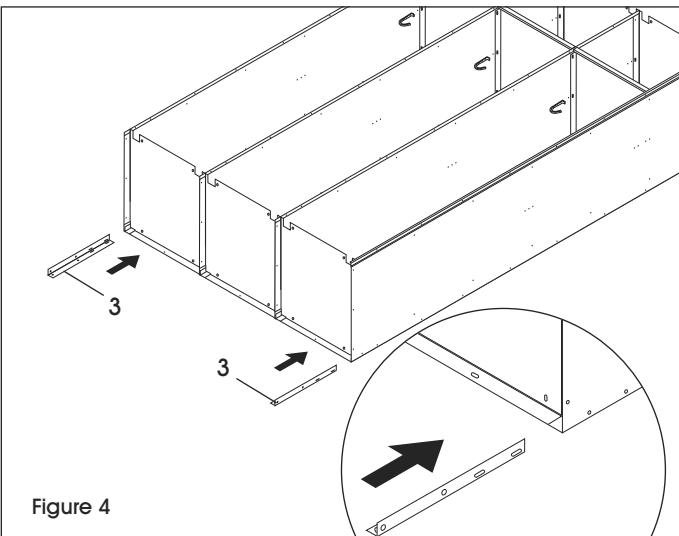

Figure 4
8. Insert rear legs (3) into the outside corners between the bottom and the side. Bolt leg to side using two bolts and nuts per leg. (See Figure 4)